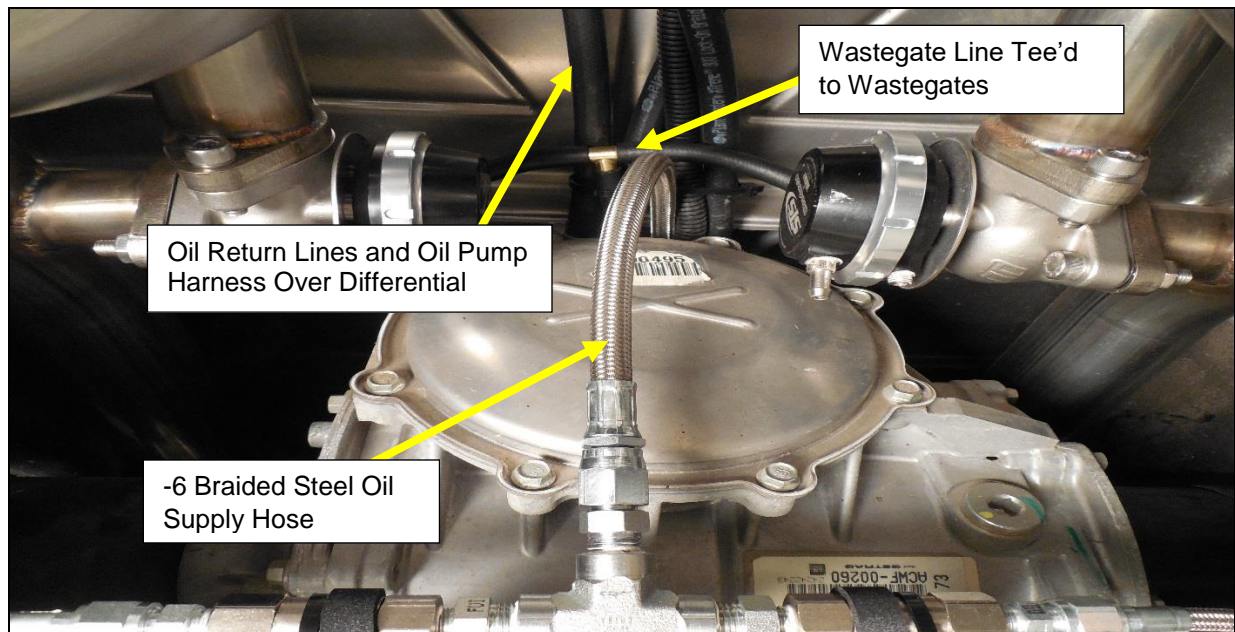

Figure 37
3. Terminate all the lines and oil pump harness to the center of the muffler box directly over the differential (**Figure 37**).